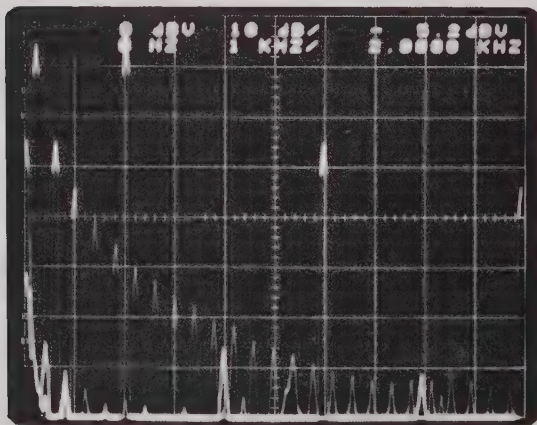

Fig. 4-3 Foreground (Intensified Sweep) Display of 0 - 10 KHz Analysis
- b. Rotate RESOLUTION to 125 Hz (25 KHz SPAN). The intensified foreground disappears, and the 0 - 100 KHz span appears with the region 0 - 25 KHz intensified. TUNING replaces 5 KHz/ on the CRT. In a few seconds, the foreground analysis from 0 - 25 KHz will appear. Repeat process by rotating RESOL UTION to 50 Hz (10 KHz SPAN). Fig. 4-3 indicates the new display. If the interference between the background and foreground is annoying, then set the DISPLAY-BACKGROUND SELECT switch to BLANK. The background will disappear.